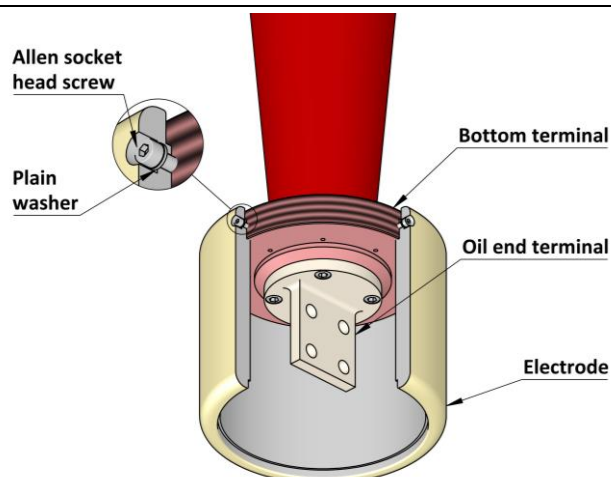
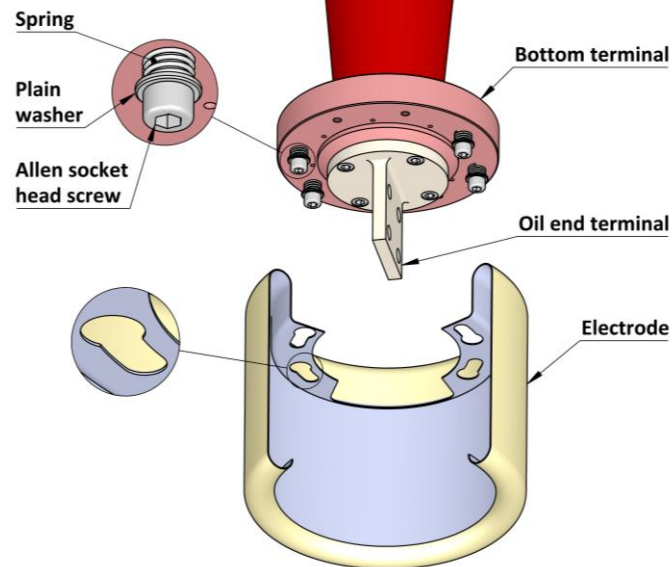

Figure 20: Removable Screwed type electrode
Figure 21: Bayonet electrode detail
**Attention** Electrode-support and its fixing parts like helical springs, bolts, screws etc. should not be removed while electrode removal or refixing or during fixing of the transformer lead. (All parts are identified in Figure 20 and Figure 21)